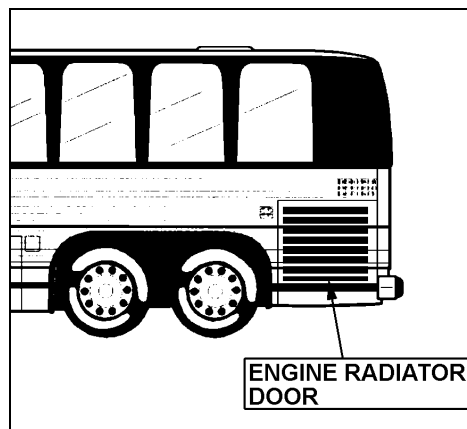

FIGURE 4 : ENGINE RADIATOR DOOR
1. Open engine radiator door, remove holding strap from door and also door stop located at bottom R.H. side corner (refer to figures 4 and 5).